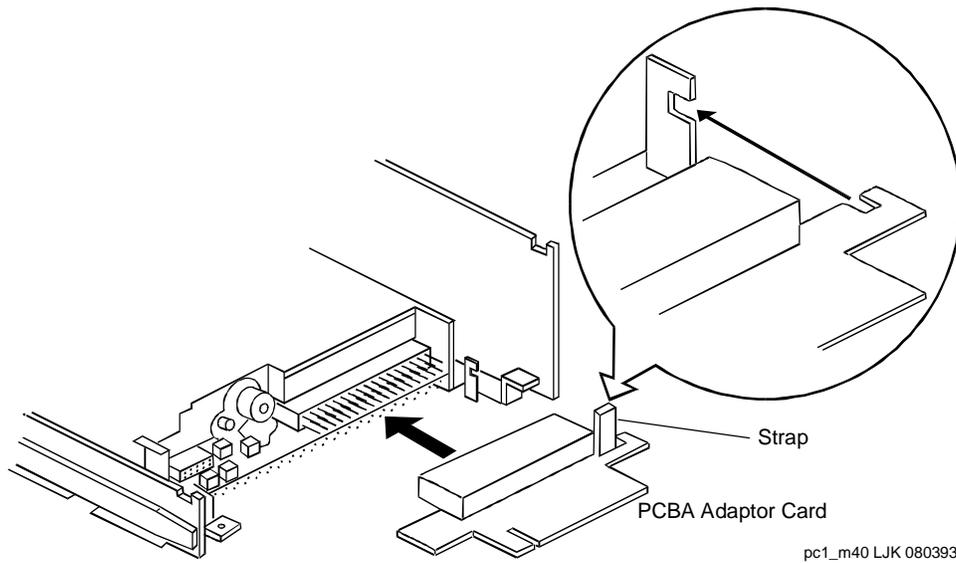

Figure 7-9. Diskette Drive Unit PCBA 5-Inch Adapter Card
9. Place the diskette drive assembly on an ESD-protected surface and carefully remove the PCBA 5-inch adapter card (Figure 7-9).
6. Attach the PCBA adapter card, being careful to align the tabs shown in Figure 7-9.